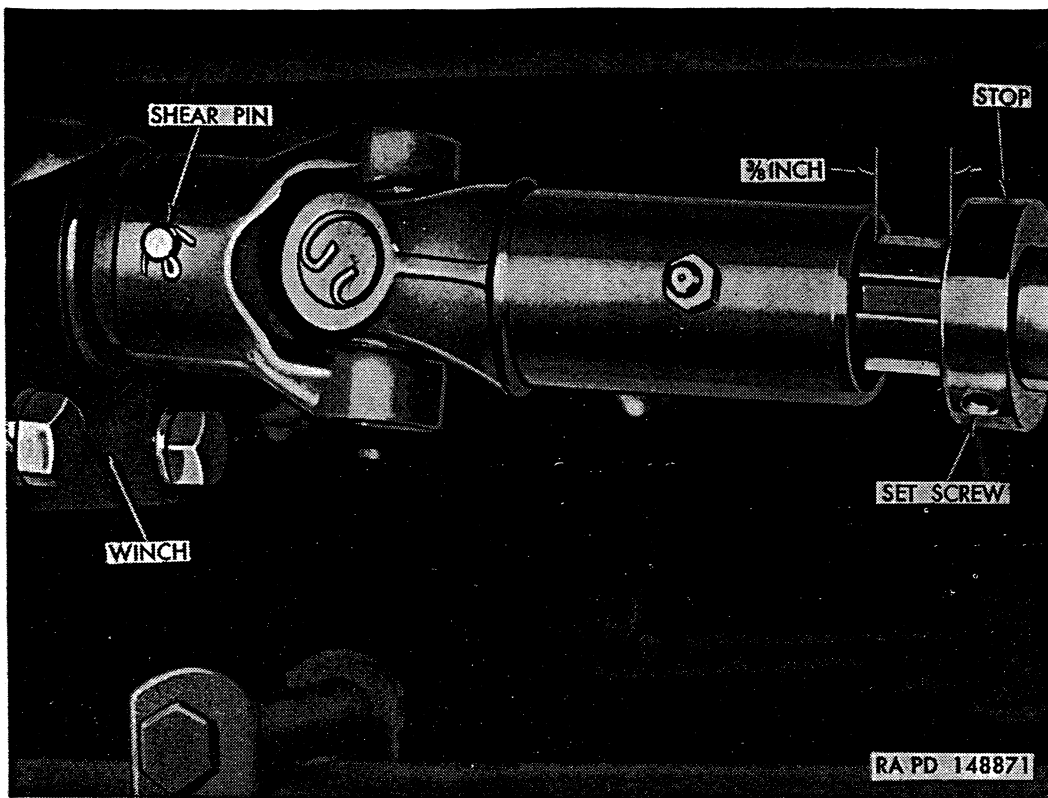

Figure 338. Shear pin installed.
(fig. 338)
- (1) Position pilot bearing assembly in pilot bearing bracket with lubrication fitting at bottom. Attach with four $\frac{1}{2}$ -20 x $\frac{17}{8}$ cap screws and $\frac{1}{2}$ -20 jam nuts; tighten jam nuts to 48 to 64 pound-feet torque. Position pilot bearing shield on the four cap screws; then install $\frac{1}{2}$ -20 safety nuts. Tighten nuts to 48 to 64 pound-feet torque.
- (2) Slide pilot bearing and bracket on front drive shaft with bracket toward front.
- (3) Place $\frac{1}{4}$ x 1 woodruff key in keyway of both front and rear drive shafts. With keyways in alignment, slide front and rear drive shafts into yokes of intermediate universal joint until taper groove pin holes are in alignment. Drive $\frac{5}{16}$ x 2 taper groove pin through each yoke and shaft.
- (4) Install rear universal joint over splines of rear shaft.
- (5) Install front universal joint over winch worm shaft, then install shear pin through joint yoke and shaft. Install $\frac{1}{16}$ x $\frac{1}{2}$ cotter pin at each end of shear pin. Bend cotter pins in place.
- (6) Guide front end of front shaft through cross member hole, then position stop on shaft. Insert front shaft into splines of front universal joint.
- (7) Push entire drive line assembly toward front until rear universal joint yoke can be installed on power-take-off shaft, aligning key in shaft and universal joint yoke. Tighten $\frac{1}{2}$ -13 x $\frac{1}{2}$ hex-socket setscrew which secures joint yoke to power-take-off shaft.
- (8) Position pilot bearing bracket against front spring and torque rod bracket, then install two $\frac{1}{2}$ -20 x $1\frac{1}{4}$ cap screws and $\frac{1}{2}$ -20 nuts. Tighten nuts to 48 to 64 pound-feet torque.
- (9) Tighten two pilot bearing setscrews and install lock wire through heads of setscrews.
- (10) Position stop at front universal joint until three-eighths of an inch exists between collar and universal joint yoke as shown in figure 338. Tighten $\frac{3}{8}$ -16 x $\frac{1}{2}$ hex-socket setscrew.
- (11) Connect brake pull back spring to pilot bearing bracket.